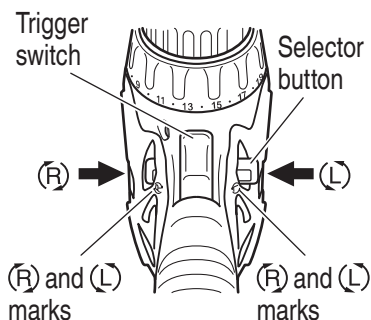

Fig. 9
The L-side of the selector button is pushed to turn the bit counterclockwise (See Fig. 9) (The (L) and (R) marks are provided on the body).